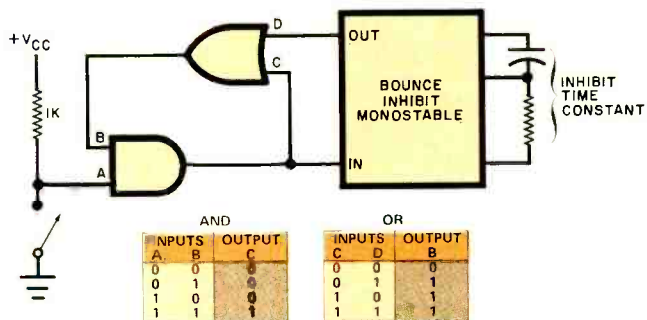

Fig. 2. Switch debounce circuit is formed from AND-OR gate logic.
**Debouncing.** A basic debouncing circuit for a switch is shown in Fig. 2, accompanied by its truth table. The circuit consists of an AND and an OR gate. When the switch is closed, input A goes low and forces the output of the AND gate low. This low signal is connected to the C input of the OR gate and is additionally used to toggle the bounce-inhibit monostable multivibrator. In response to the low at its input, the multivibrator sends a low signal to the D input of the OR gate for a period of time determined by the monostable time constant. Since both inputs to the OR gate are low, the output of the gate also goes low.